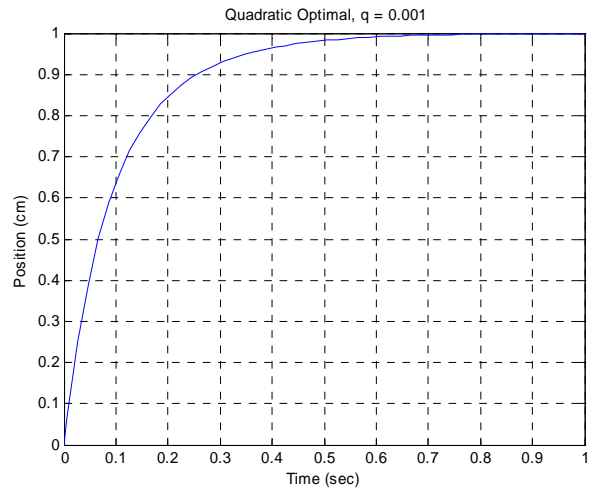

Figure 3. Step response of the new plant with the type 1 controller (Problem 4, part d)
d) Now simulate this system (plant from part c) with a unit step input using the controller and prefilter from part (b). You should get results like those in Figure 3. Turn in your graph.